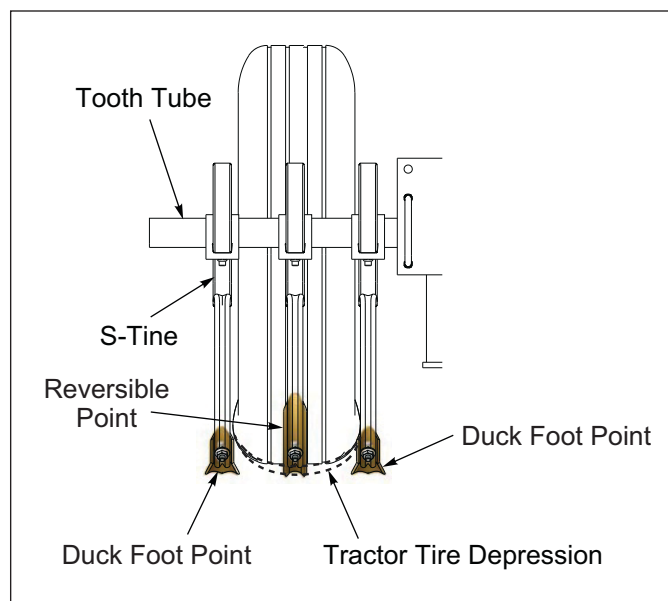

Figure 2-66: S-Tine Point Position
4. Assemble the Points to the S-Tines. The suggested pattern is to assemble the Reversible Point onto the center S-Tine and a Duck Foot Point on the S-Tine on either side of the center S-Tine with 3/8-16 x 1-3/4 Plow Bolt and Flanged Locknut. **See Figure 2-66.**